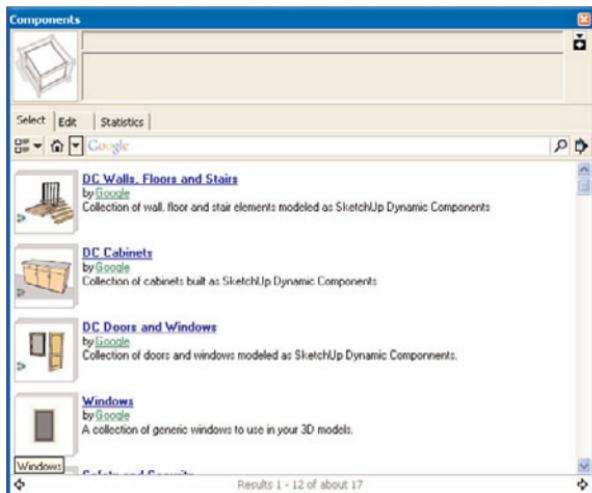

FIGURE 6.15 The Architecture component collections.
4. Select the **Architecture** menu item. This will display a dialog box, as you see in Figure 6.15, of component collections available in Google’s 3D Warehouse.